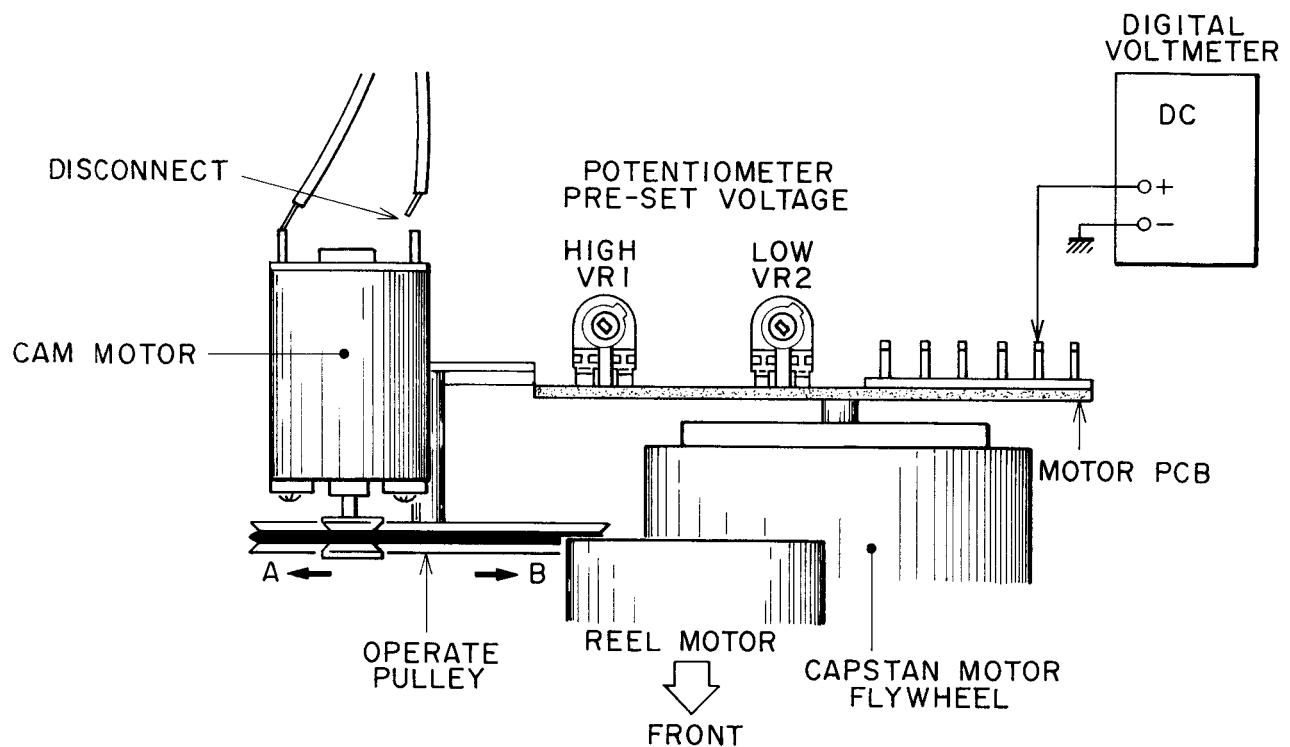

Fig. 8-1
- Connect the digital voltmeter as shown in Fig. 8-1.
- With power ON, adjust VR2 so that the voltage reading will be 0.78V (DC).